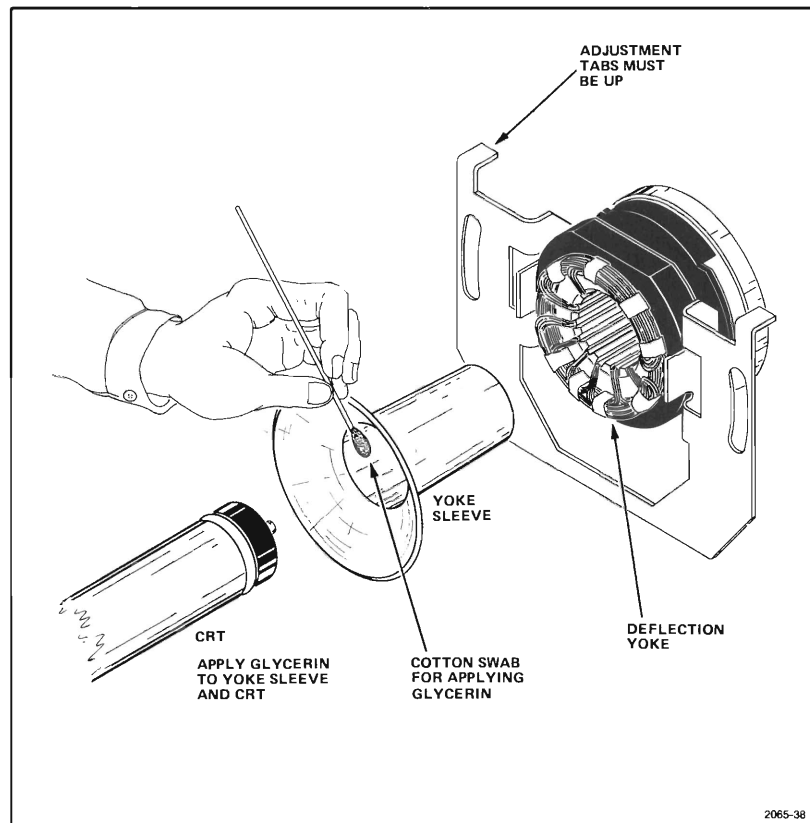

Figure 3-17. CRT Installation/Removal Detail.
6. Apply glycerin lubricant sparingly to the neck of the crt using a cotton swab as shown in Figure 3-17.